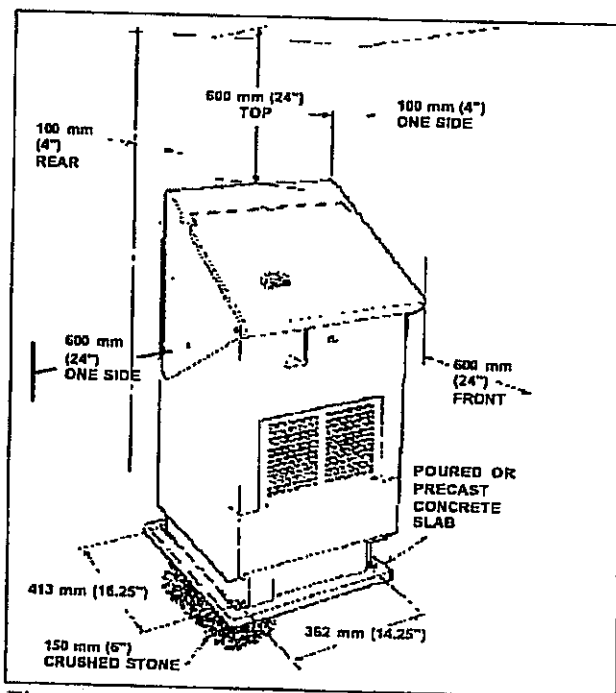

Figure 1 Service Clearances and Mounting Dimensions
- ① The FuelMaker must be installed outdoors only in accordance with the requirements of the authorities having jurisdiction.
- ② The FuelMaker must be mounted on a firm, level, non-combustible base. Where ground is not level a poured or precast concrete slab placed on a suitably prepared base (e.g. crushed stone, 150 mm (6") deep) is acceptable. Ensure that the servicing clearances stated on the nameplate are maintained, (See Figure 1). Avoid areas where damage from excessive ice build-up may occur such as building overhangs or where vegetation, snow or debris may clog the cooling air inlet/outlet.
- ⑤ Prepare the base as explained in Section 3.2. Lag Bolts (3/8 inch) and anchors must be used to secure the FuelMaker feet to the base; the locations of the mounting bolt holes in the FuelMaker base are indicated in Figure 1.